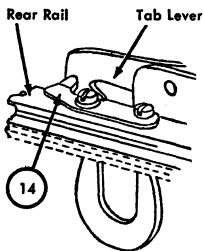

Figure 29. Tab Lever Stop
14. TAB LEVER STOP. Adjust so that when the cam is on its high point there will be a clearance of from .000" to .005" between the stop and the tab lever (Figure 29).